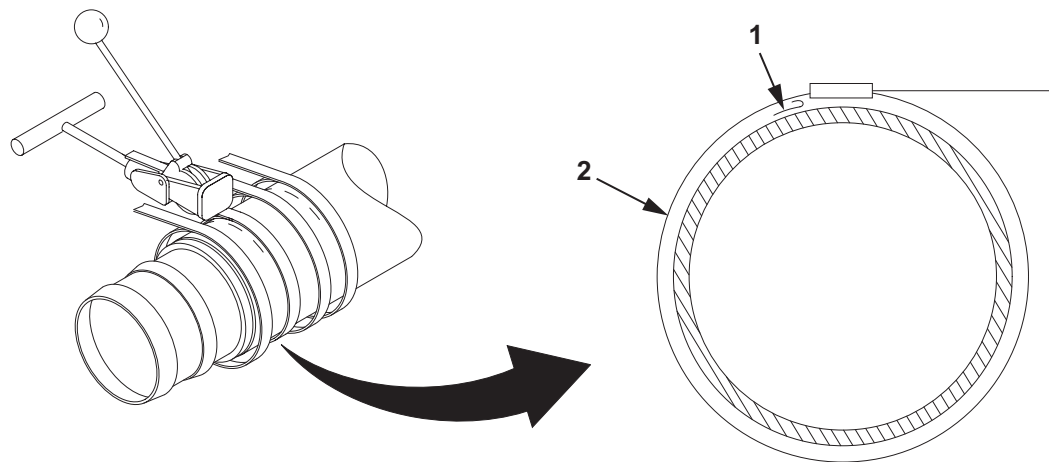

Figure 25. Hose Assembly Repair.
17. Install the bridge buckle (Figure 25, Item 1) under clamp (Figure 25, Item 2).
18. Tighten clamp (Figure 25, Item 2) until the clamp (Figure 25, Item 2) cannot be tightened by hand any further.